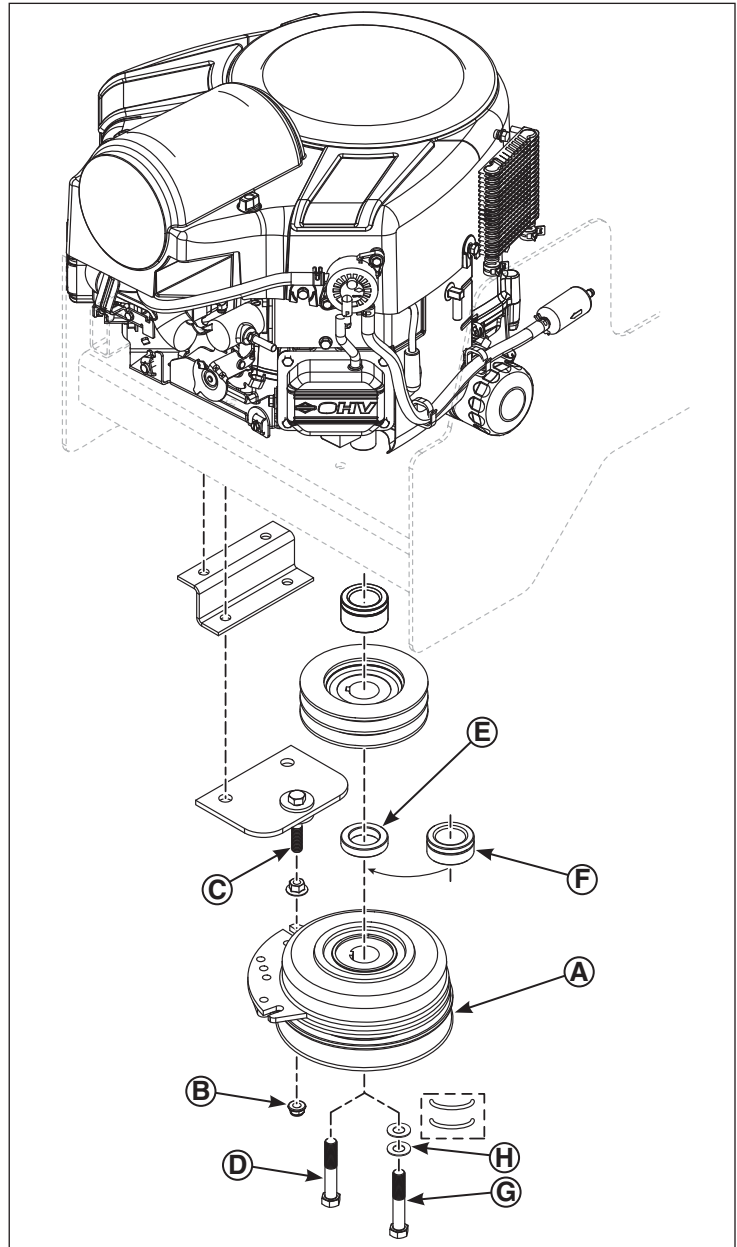

Figure 2. Replacing the Spacer and Crankshaft Bolt / Adding Belleville Washers
6. Remove the mower deck drive belt from the PTO clutch (**A, Figure 2**).